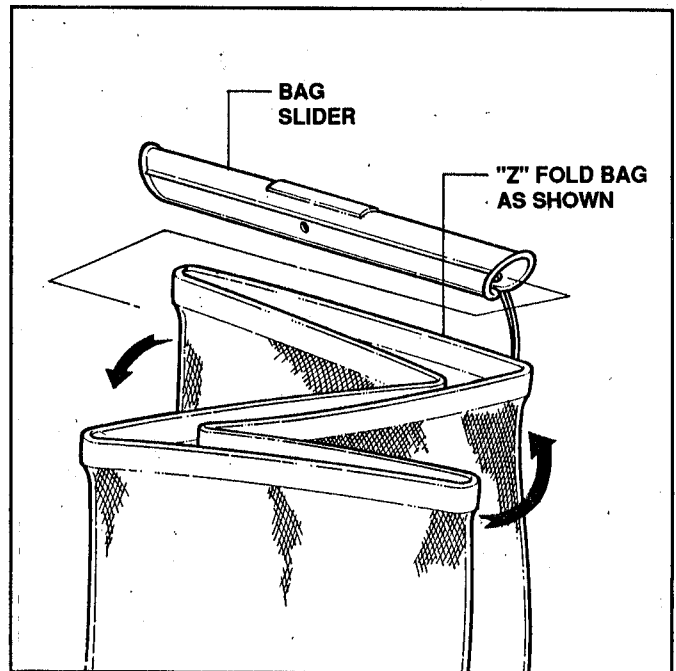

FIGURE 2.8
- E. To empty the bag, pull slide bar off the folds of cloth at rear of bag, then raise the connector end up. See figure 2.8.
- A. Fold the cloth into a Z shape and keep the edges aligned. Refer to Figure 2.8.